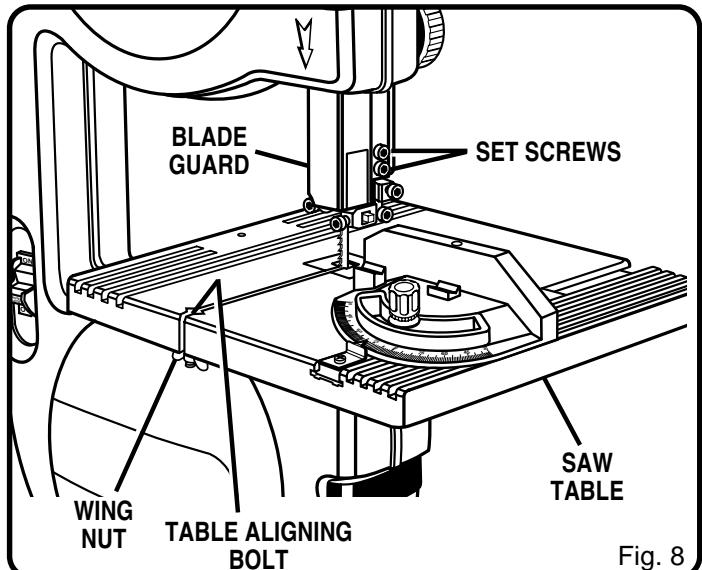

Fig. 8
See Figures 8 and 9.
- Loosen and remove the wing nut and table aligning bolt from the saw table. *See Figure 8.*
- Loosen the two set screws that hold the blade guard in place using the 4 mm hex key provided then remove the blade guard. *See Figure 8.*